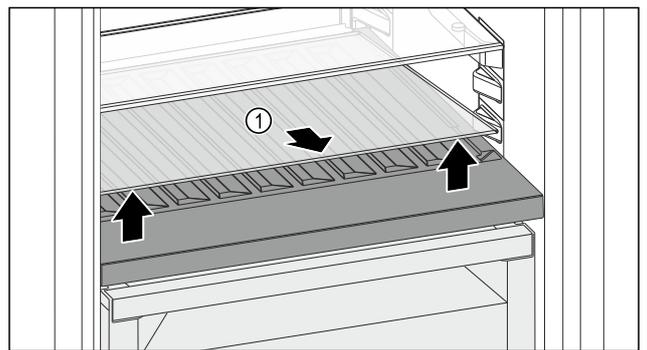

Fig. 103
- ▶ Lift the glass shelf Fig. 103 (1) at the front and remove.
- ▶ Store the glass shelf Fig. 103 (1) in a safe place outside the appliance.